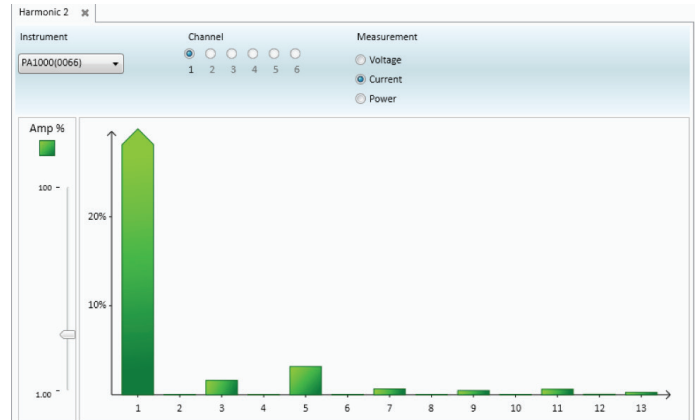

Figure 7. Harmonic bar chart.
- The results can also be viewed in a graphical form. To display charts and graphs, click on the Graphs tab. From there, select either Harmonic or Waveforms to view data in a graphical format. An example of a bar chart is shown in Figure 7.